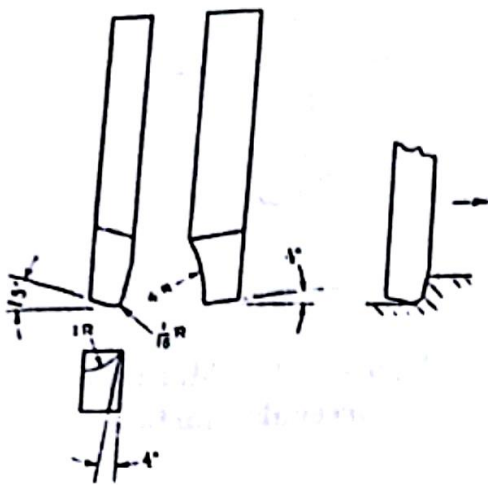

Figure 7.25 A left hand roughing tool for planing
1. A left hand roughing tool for planing (Fig.7.25)